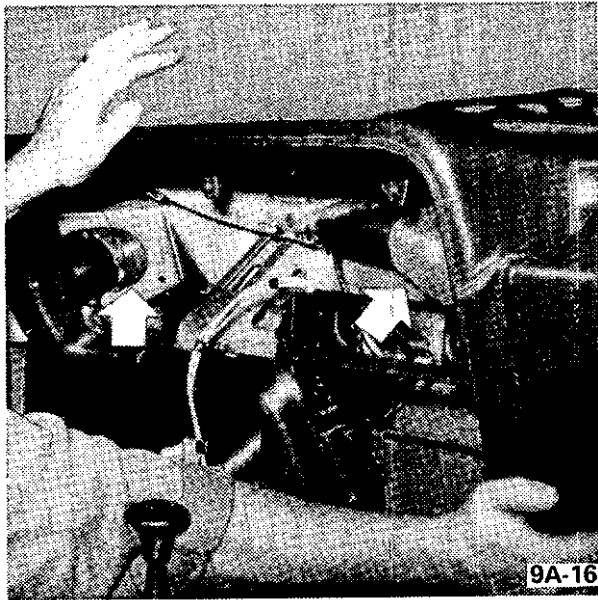

Figure 9A-16 Heater and Defroster Duct Hoses
3. Install support bracket (B) and heater control (A). See Figure 9A-12.
5. Install six (6) cluster retaining screws. See Figure 9A-10.